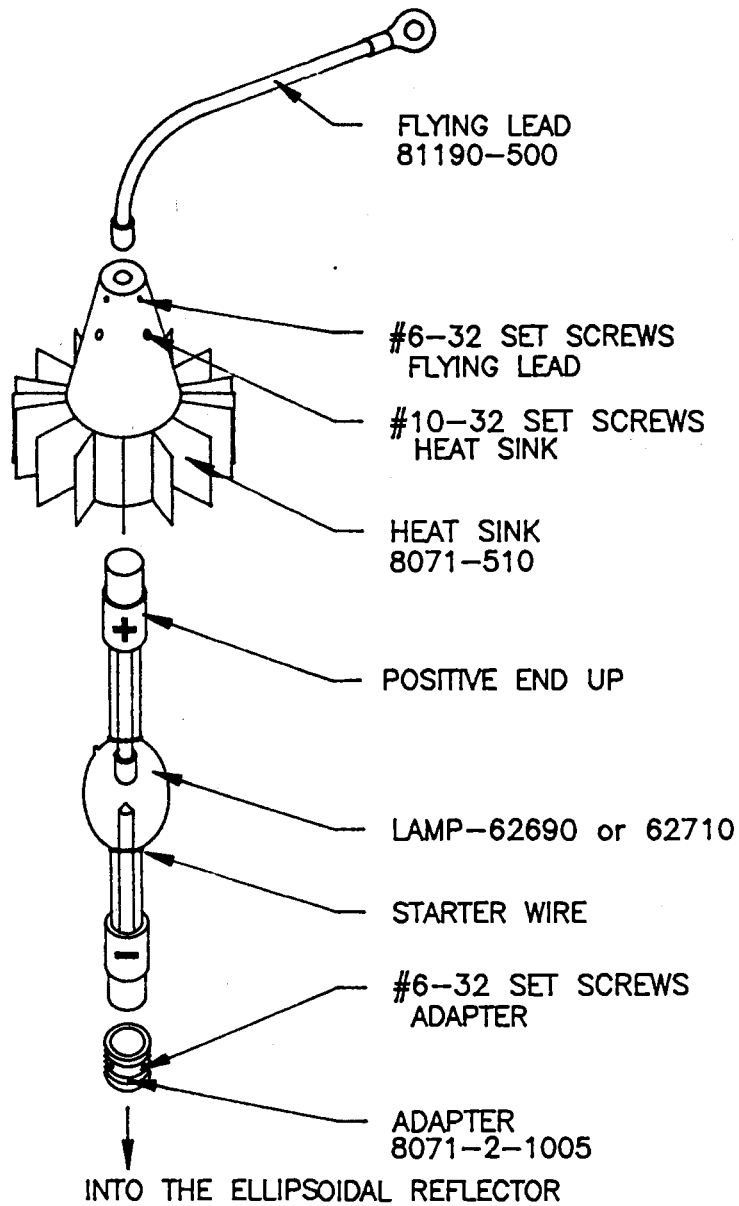

Fig.1a.INSTALLING THE LAMP
- 4) Place an adapter on the cathode (- endcap) if the lamp housing is a standard configuration (Fig. 1a.) or on the anode (+ endcap) if the lamp housing is an inverted configuration. Secure the adapter with the two set screws.
- 6) Place heatsink over exposed end cap of lamp and secure it with two #10-32 set screws as shown in Fig. 1a or 1b.